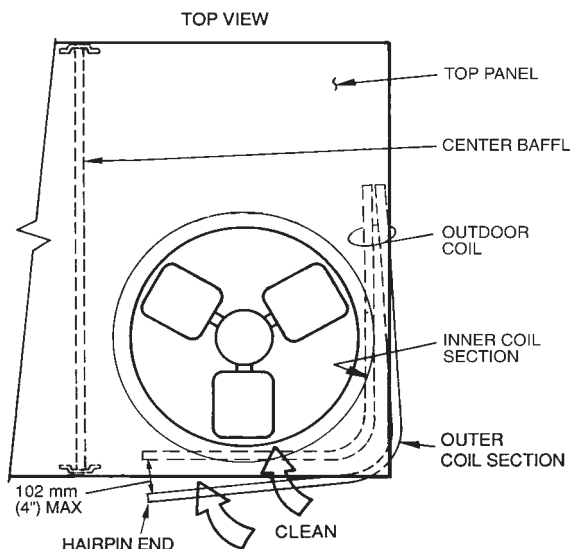

Fig. 47 - Separating Coil Sections
- Remove the device holding the coil sections together at the return end of outdoor coil. Carefully separate the outer coil section 3 to 4 in. from the inner coil section. (See Fig. 47.)